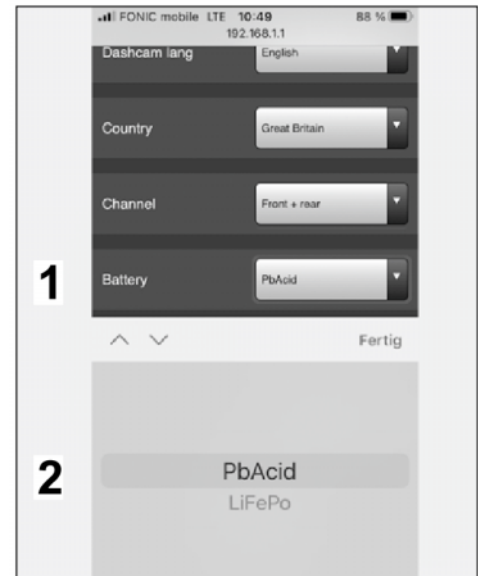

Figure 22
5.3.4 Select the battery type (⇒ *Figure 22*)